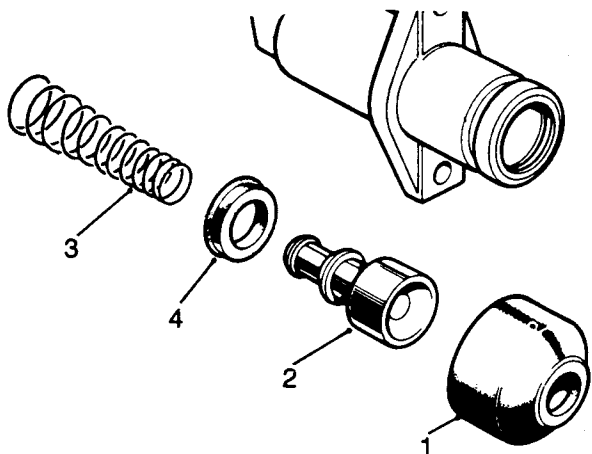

Fig H3.26
- (2) Refer to Fig H3.26. Withdraw the dust cover (1).
- (3) Expel the piston assembly (2) by applying low pressure air to the fluid inlet.
- (4) Withdraw the spring (3).
- (5) Remove the seal (4) from the piston.